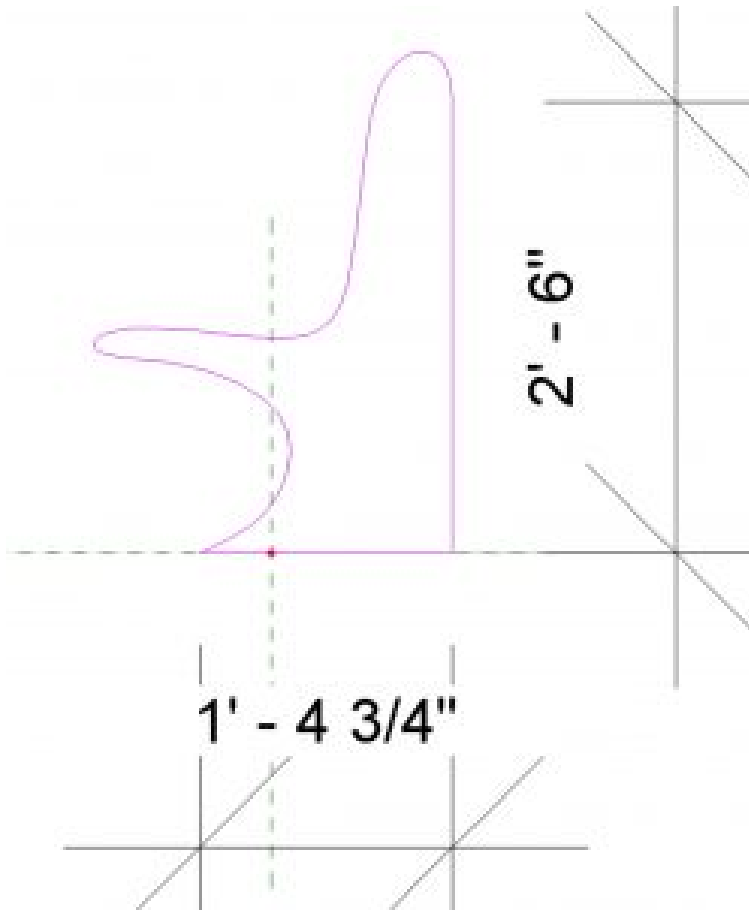

Figure 7.3 Curvilinear chair outline shown in elevation
18. Use the Line tool  and Spline tool  to draw a chair-like outline as shown in Figure 7.3